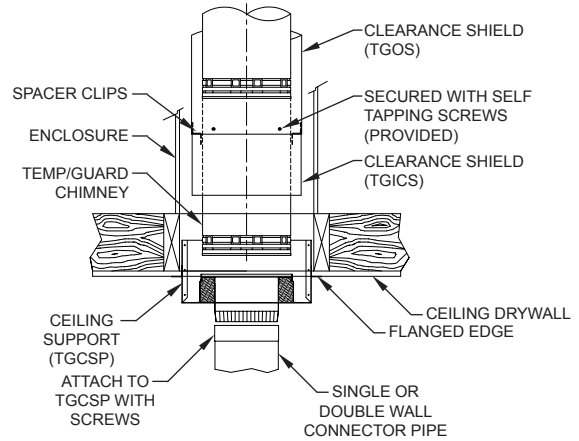
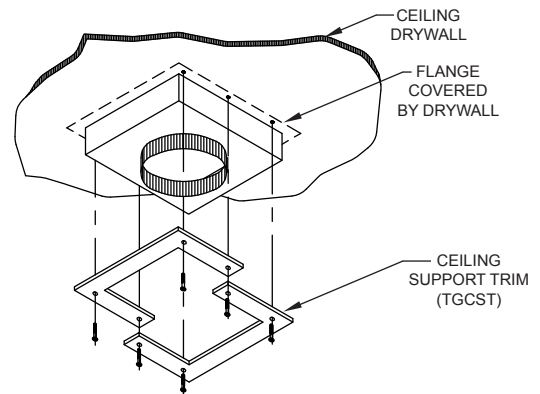

FIG. 3
FIG. 4
3. As shown in FIG. 3, insert the Ceiling Support (TGCSP) from below until the flanged edges are firmly against the ceiling drywall. Secure into framing with eight (8) 8-penny nails inserted through the sides of the ceiling support. If the TGCSP was installed during construction and drywall now covers the flanged edges, install Metal-Fab's ceiling support trim kit (TGCST), as shown in FIG. 4.
4. If the chimney is an enclosed installation for a wood stove or coal burning appliance the clearance shields must be installed (TGICS-C & TGOCS-C). Begin by installing a TGICS-C around the Temp/Guard chimney and resting on the Temp/Guard Ceiling Support (See FIG. 3). The TGICS-C will center itself by the brackets attached to the shields. Continue installing the shields around the chimney for the full enclosed height. The clearance shields are telescoping components and will alternate between the inside clearance shield (TGICS-C) and outside clearance shield (TGOCS-C). The (TGICS-C and TGOCS-C) will be held together by (3) self tapping screws supplied with the shields. For offsets and tees use shields TGICS15L-C, TGICS30L-C and TGICST-C.
5. Single wall or double wall connector pipe may now be installed between the appliance and the ceiling support. (See FIG 3.)